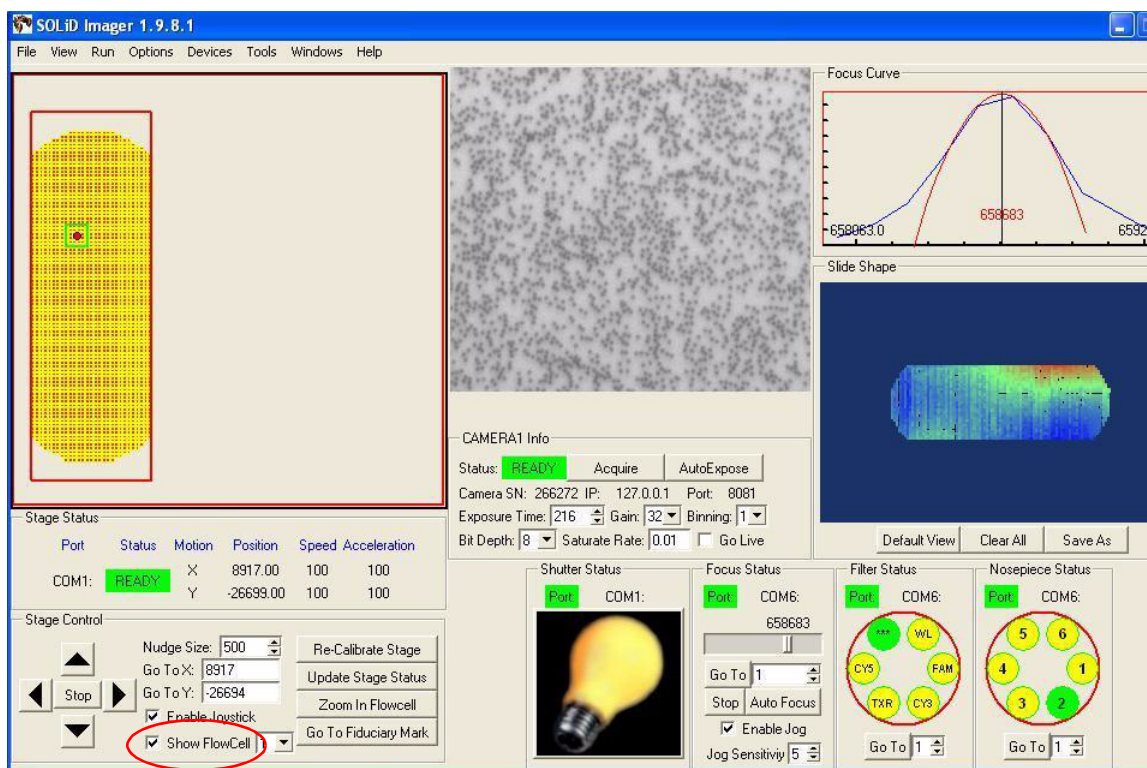

Figure 79 Click **Show Flowcell** to find the beads on the slide.
2. Select the **Show Flowcell** box in the bottom left hand corner of the Imager window, then choose the number of the flowcell to set (Flowcell 1 or Flowcell 2; see Figure 79).